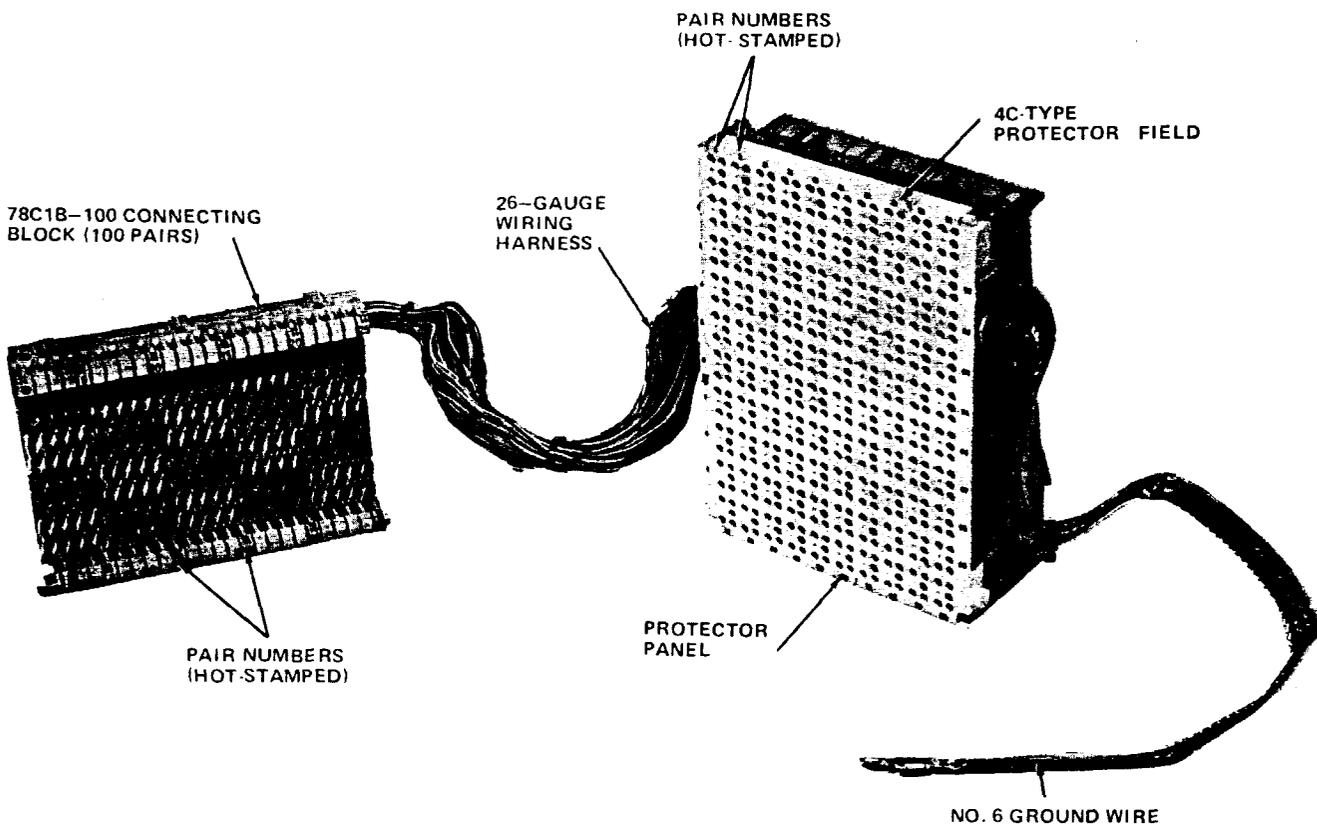

Figure 1. 307A1-100 Connector — Front View
2.02 The 307A1-100 connector (Figures 1 and 2) is rated Limited Availability (LA). The connector has a protector panel interconnected to one 100-pair, 78C1B-100 connecting block. The block is stenciled 01-100 and represents any 100-pair complement in an outside plant cable. The 307A1-100 connector has additional backplane wiring that interconnects the protector panel to four 710 fire-retardant connectors. The connectors provide for rapid connection to 11CA or 11DA cable stubs equipped with mating 710 bridge modules. The 307A1-100 connector is mounted on shelves 2 through 10 of the **COSMIC II** main distributing frame.
3.01 The 78C-type connecting blocks (Figures 1, 2, 3, and 4), used as part of the 307A1-100 and 307B1-100 connectors, have 50- or 100-pair termination capacities. The blocks are made of molded plastic and have bifurcated, insulation slicing-type, quick clip terminals for cross-connections on the front plane of the block. Solderless wire-wrap terminals are used for hard-wired cable terminations on the rear. The front face of the block body contains a red and white checkerboard pattern separating five loop cable pairs. This pattern also delineates rows of paired (tip and ring) terminals. The rear face of the block has a plastic grid pattern that groups the terminals